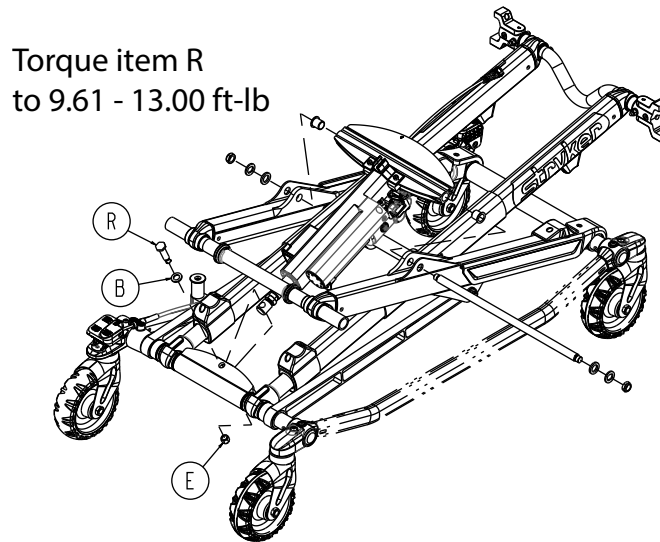

Figure 45 – Lift assembly components
15. Using a 3/4" combination wrench and a 9/16" combination wrench, remove the rod attachment pin (R), flat washer (B), and Nylock hex nut (E) that secure the hydraulic cylinder to the base (Figure 45). Save all parts.